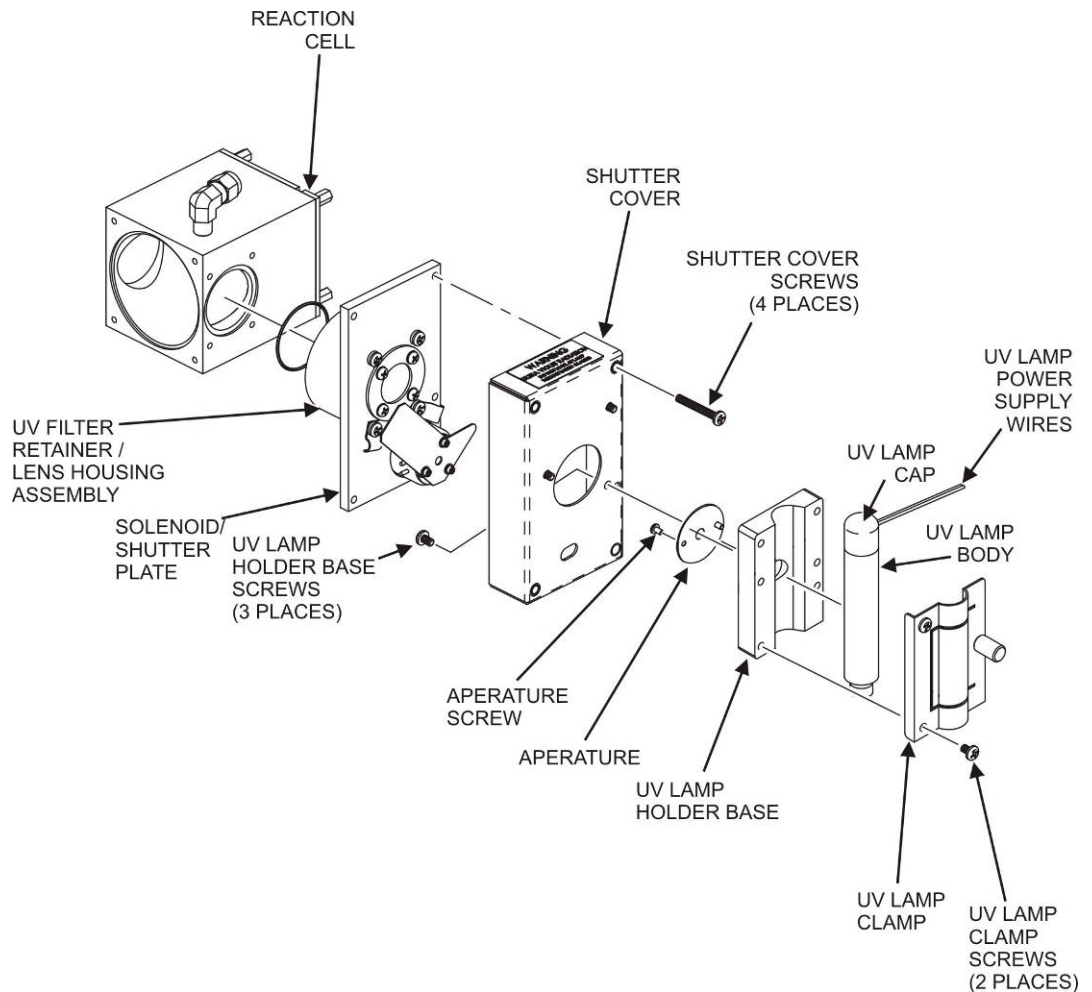
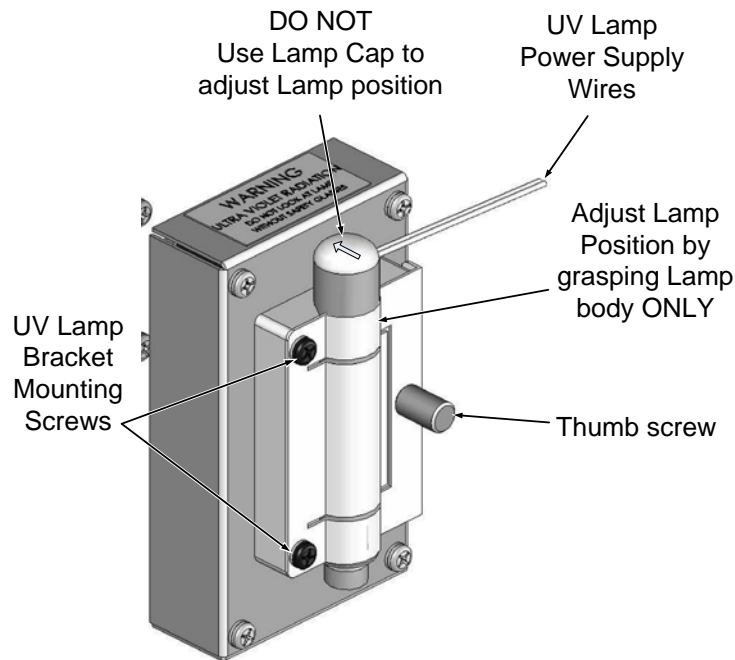

Figure 11-13: Shutter Assembly
Figure 11-14. UV Lamp Adjustment
4. Remove 4 screws from the shutter cover (refer to Figure 11-13) and remove the cover.
2. Slightly loosen the large brass thumbscrew located on the shutter housing (refer to Figure 11-14) so that the lamp can be moved.
**DO NOT** grasp the UV lamp by its cap when changing its position - always grasp the main body of the lamp (refer to Figure 11-13). Inattention to this detail could twist and potentially disconnect the lamp's power supply wires.
4. Loosen, but do not remove the two UV lamp bracket screws and the large brass thumbscrew located (refer to Figure 11-13 and Figure 11-14) on the shutter housing so that the lamp can be moved.
**DO NOT** grasp the UV lamp by its cap when changing its position - always grasp the main body of the lamp (refer to Figure 11-13)